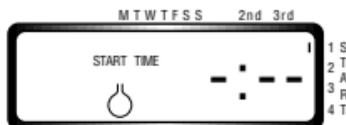

Figure 5
- Push **START/DURATION** key. The display shows Start Time, -:—, and a blinking cursor in the Start Time 1 location. [See Figure 5]